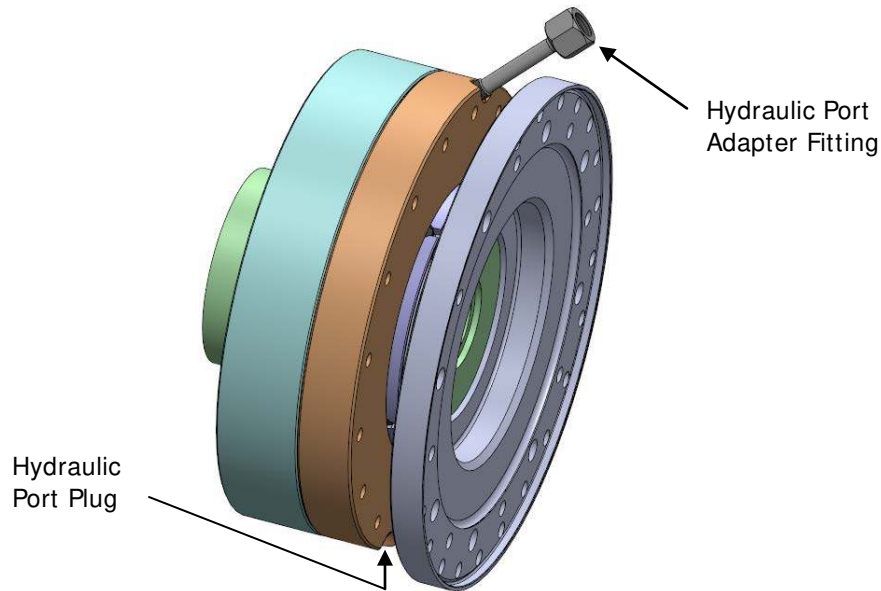

Figure 5 – Port Fittings
3.4.4 Thread the Hydraulic Port Adapter fitting (Riverhawk PN 2001992) into one of the hydraulic ports on the HTC as shown in Figure 5. The fitting can be used in either port.